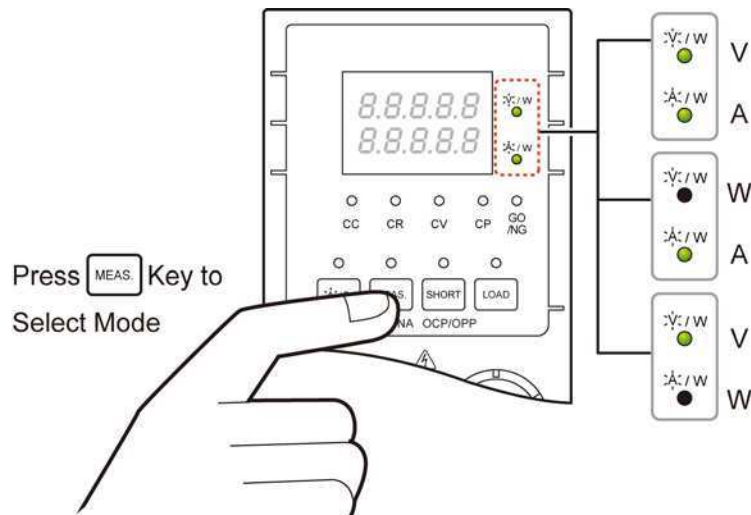

Figure 4-9 7-Segment Display for MEAS. V / A / W Switch
Pressing the **MEAS.** key can switch the measurement modes via the 7-segment display. There are 3 types of measure modes - Mode 1: Voltage (V) and Current (A); Mode 2: Power (W) and Current (A); Mode 3: Voltage (V) and Power (W), see Figure 4-9.